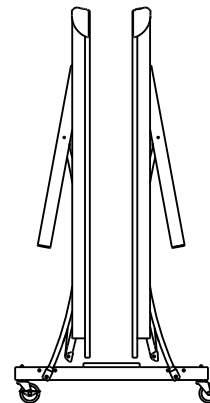

Figure 19
4. Raise other table half in the same manner as shown in Figure 19.